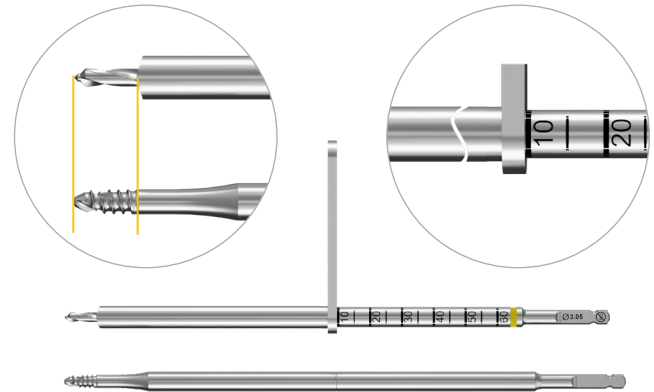

Figure 82
- When the tip of the drill bit reaches the desired depth, the handle of the tissue sleeve will align with the half pin thread measurement that can be read off the drill bit's scale. **(Figure 82)** Short drill bits are designed to be used with the short tissue sleeve only.